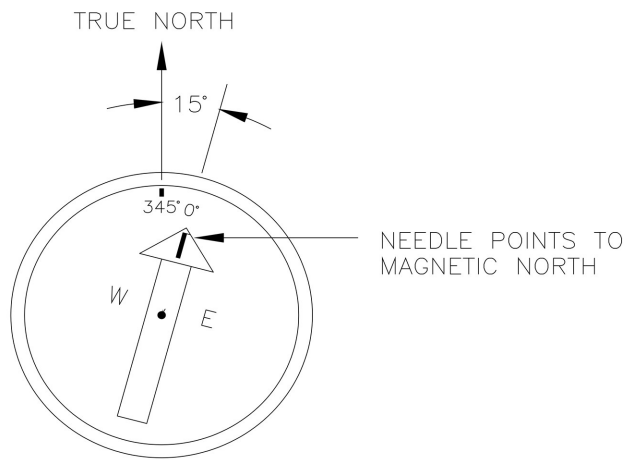
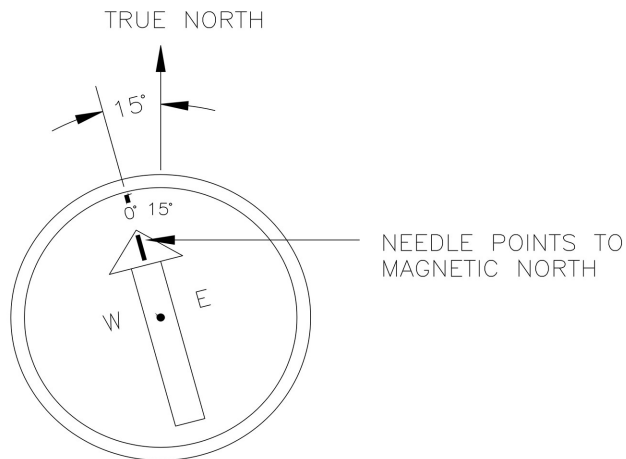

FIGURE A-2. Declination angles east of true north are subtracted from 360 to get true north
FIGURE A-3. Declination angles west of true north are subtracted from 0 to get true north
Declination angles east of true north are reported as positive values and are subtracted from 360 (0) degrees to get true north as shown in FIGURE A-2 (p. 93). Declination angles west of true north are reported as negative values and are subtracted from 0 (360) degrees to get true north as shown in FIGURE A-3 (p. 93). Note that when a negative number is subtracted from a positive number, the resulting arithmetic operation is addition.